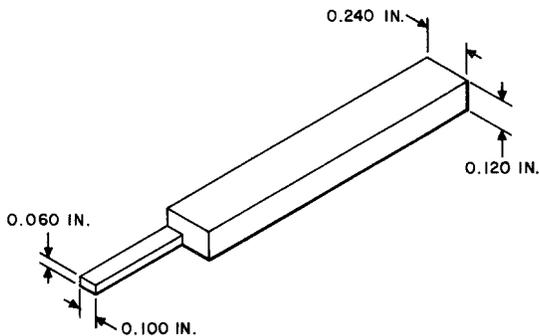

Fig. 3—B27580 Solenoid Adjusting Tool
- (1) Manually press the plunger against the solenoid seat and loosen the 3/16-inch hex nut at the rear of the plunger. Insert the proper size side of the B27580 adjusting tool (Fig. 3) between the rubber washer next to the 1/4-inch nut at the rear of the solenoid and the solenoid body.
- (2) Adjust the distance between the rubber washer next to the 1/4-inch nut and body to the tool size and tighten the 3/16-inch nut. Remove the tool.